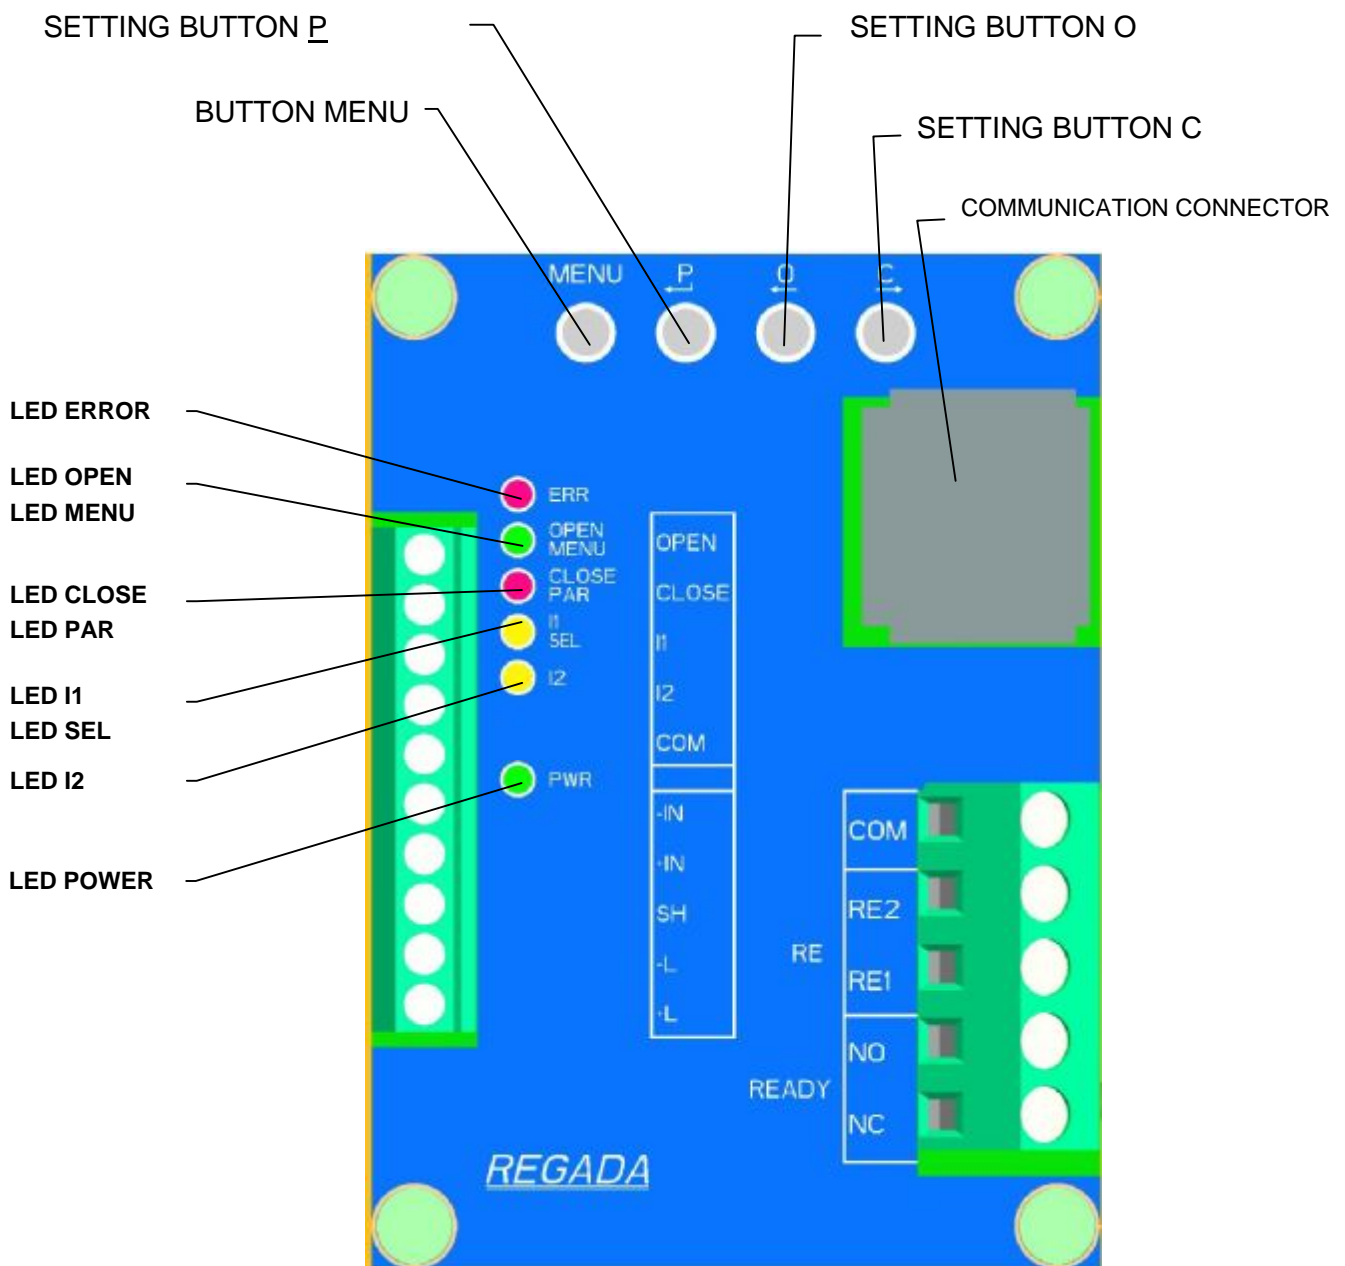
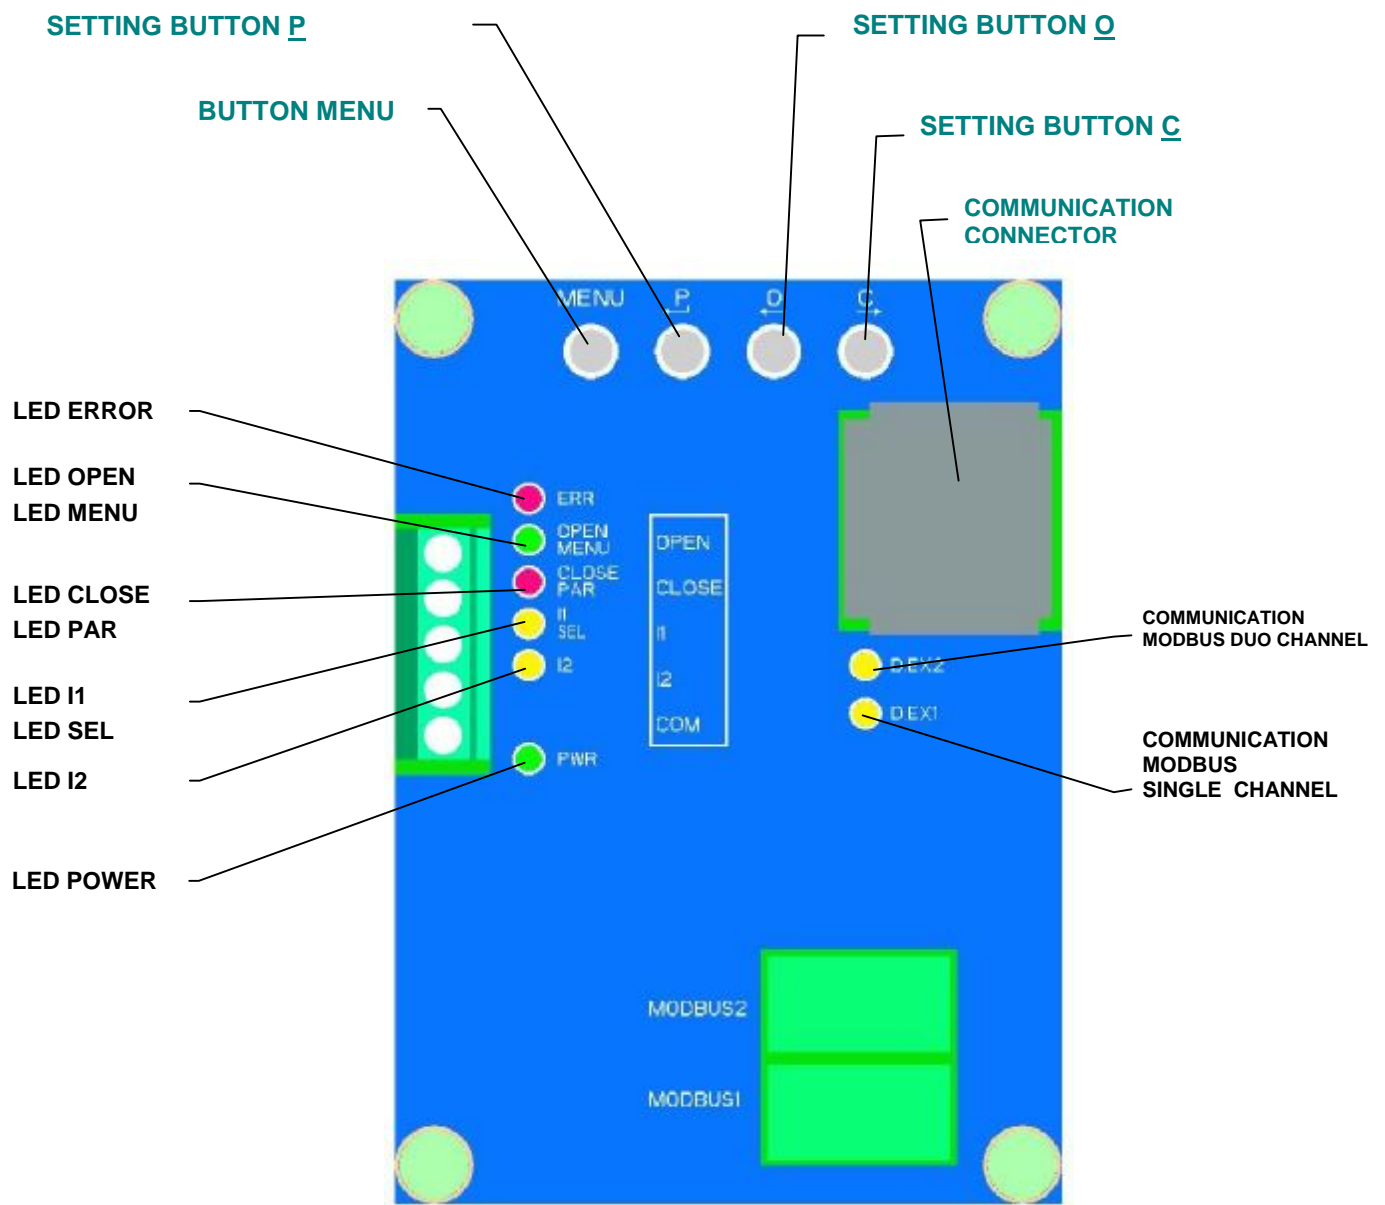

Fig. 6
Fig.6a
Adjustment is made onto mechanical and electrical connected actuator. This chapter describes how to set up the EA to parameter values within a range applicable for the software. Location of adjustable parts of control board is on **Fig. 6 and Fig.6a**.
- by operating the control unit buttons (see **Fig. 6) and Fig.6a)**
- six signal lamps according (LED diode) to **Fig. 6 and Fig.6a)**